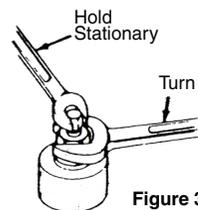

Figure 3
4. While punching, hold the drive screw with one wrench and turn the drive nut with another. (See Figure 3)
*CAUTION! Always hold the drive screw stationary and turn the drive nut (See Figure 3), except for the 3/4" through 2" sizes which have no drive nut.*
4. Always hold the screw stationary and punch by turning the drive nut (except for 3/4" through 2" sizes which do not use a drive nut). (See Figure 3)